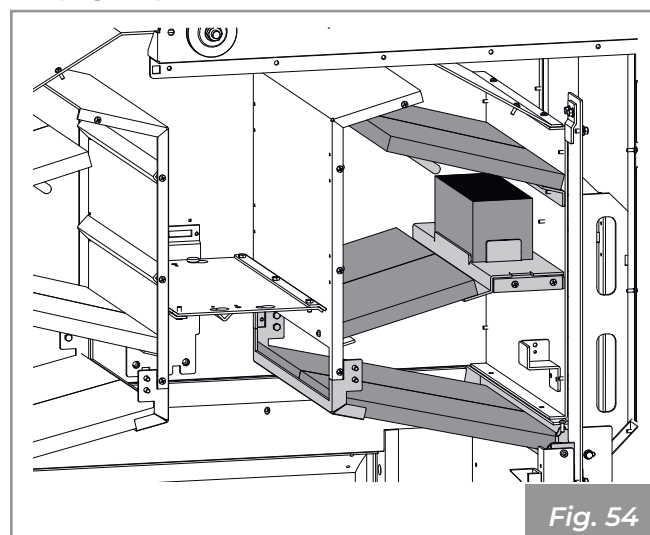

Fig. 54
8) Proceed in the same way on the opposite side (Fig. 54).